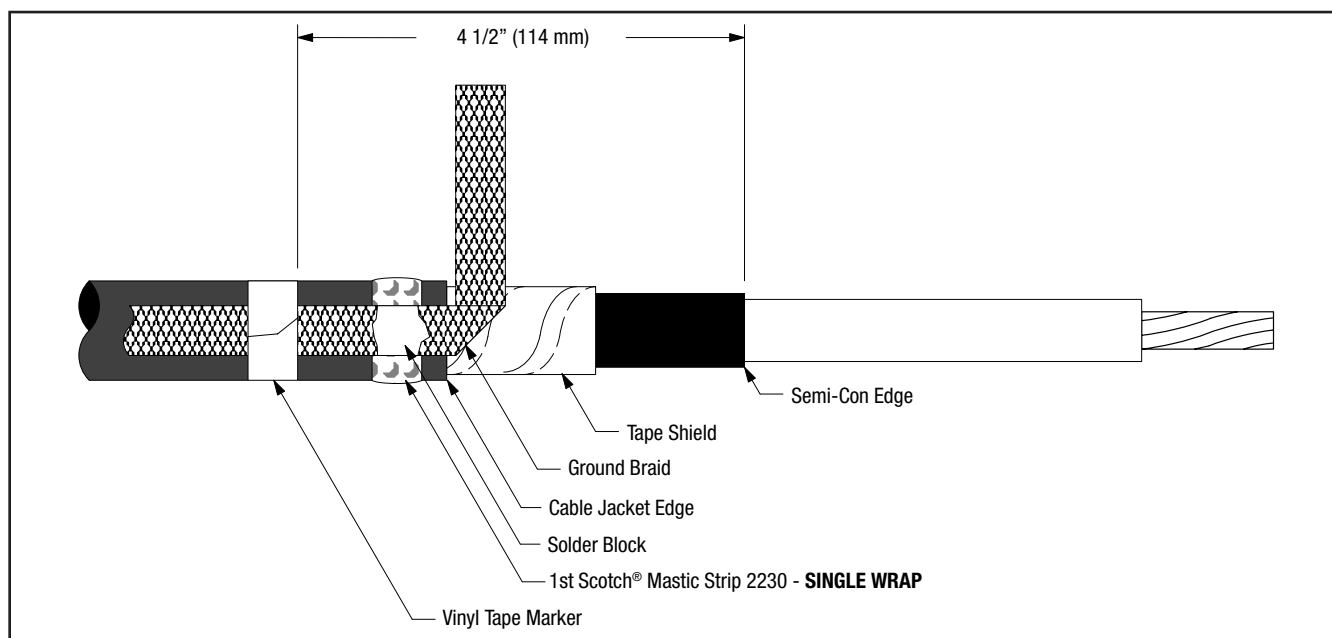

Figure 3
- 3.2 Position pre-formed ground braid with short tail over tape shield directly adjacent to cable jacket cut edge. PLEASE NOTE: The ground braid needs to make full contact with the metallic tape shield. Position long tail of ground braid, extending over cable jacket with solder block over mastic strip (Figure 3). Secure ground braid to cable jacket 4 1/2" (114 mm) from cable semi-con edge using vinyl tape (See NOTE and Figure 3).